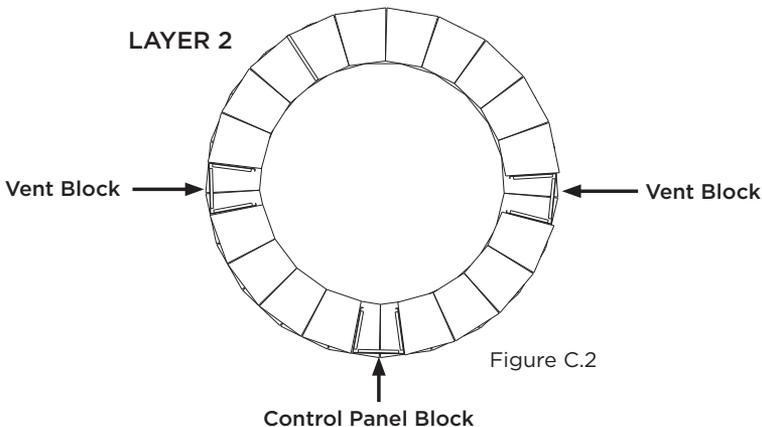

Figure C.2
- This layer will contain the 2 vent blocks (*included in kit*), and the control panel block (*included in kit*). Follow diagram on Figure C.2